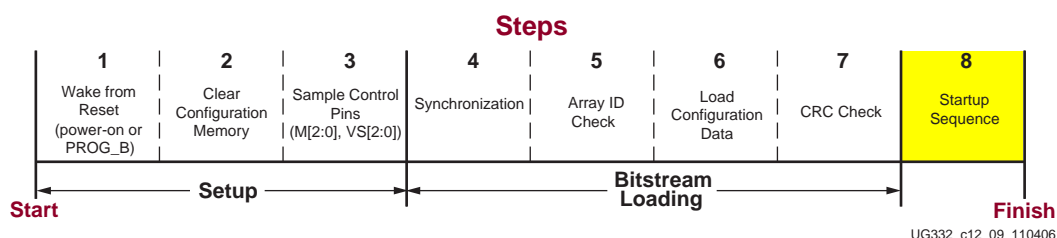

Figure 12-11: Startup Sequence
3. Hold the **DONE** pin Low, which prevents the FPGA from completing the Startup Sequence, shown as Step 8 in Figure 12-11, page 240.